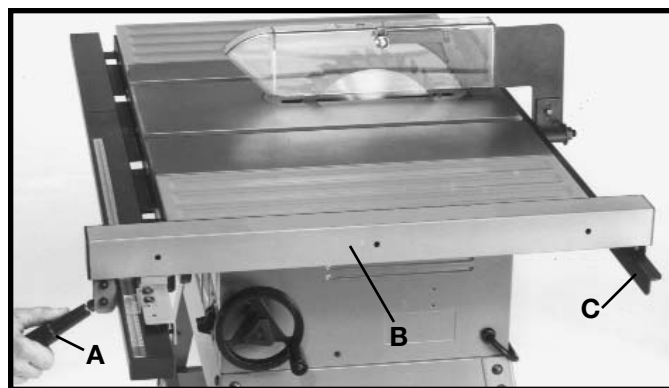
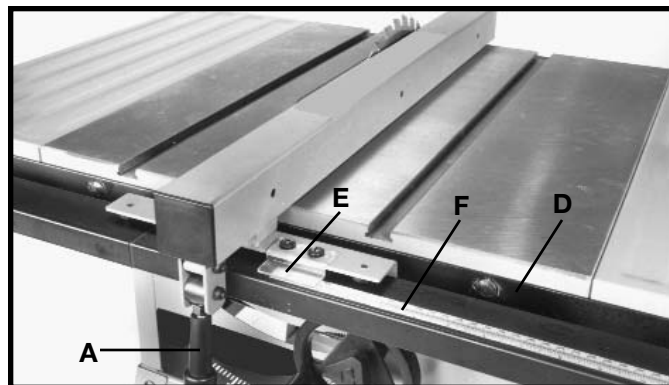
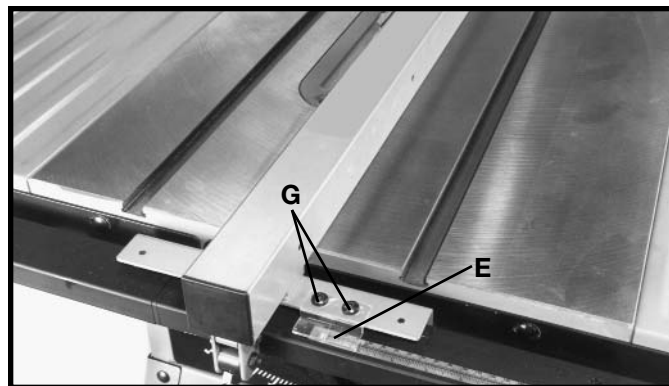

Fig. 22
Fig. 23
Fig. 24
2. With handle (A) Fig. 22 in the raised position, place rip fence (B) on the saw table as shown. **NOTE:** Make certain rip fence (B) is engaged on rear guide rail (C). Move rip fence (B) against saw blade as shown in Fig. 23.
3. Carefully move front guide rail (D) Fig. 23, left or right until line on cursor (E) aligns with zero ("0") on guide rail scale (F). Push handle (A) downward to lock rip fence in position. Snug up front guide rail mounting hardware. Minor adjustment to the cursor (E) Fig. 24 can be made by loosening two screws (G), adjusting cursor left or right, and tightening two screws (G). Remove rip fence and lower saw blade.